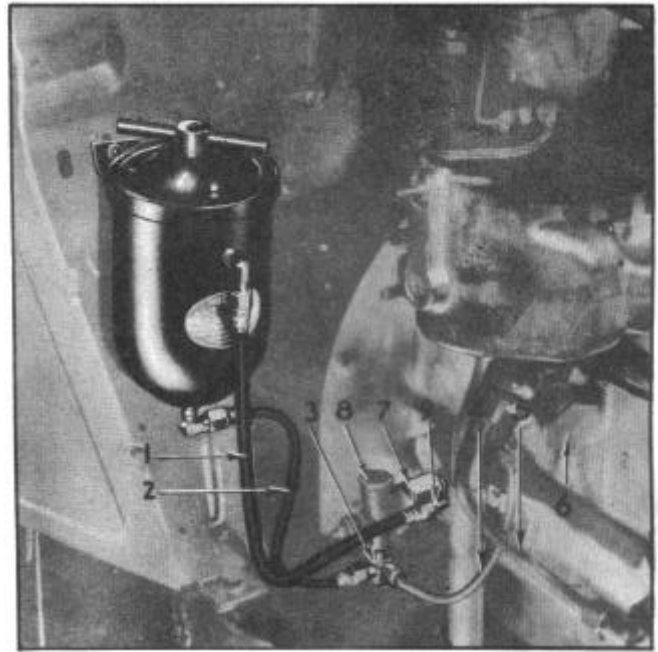

Figure 5--Engine Oil Filter Installation
NOTE: Locate this elbow so that it is horizontal and toward the front of the car. The elbow pointing toward the side of the car and away from the engine (See 9 Figure 5)
6. Remove the elbow from the bottom of the check valve and discard it. Replace with the 3 way tee (3, Figure 5) in the kit. Locate this tee with the 5/16" outlet toward the front of the car.
8. Attach the oil line (4, Figure 5) from the oil pump to the 5/16" outlet of the 3 way tee.
9. Attach the tell-tale wire to the check valve (7, Figure 5).
14. Keep the hose clear of any obstructions and connect the short or inlet hose from the 3 way tee to the elbow at the bottom of the filter (2, Figure 5).
15. Keep the hose clear of any obstructions and connect the long or outlet hose from the elbow in the oil check valve body extension to the elbow at the top of the filter (1, Figure 5).